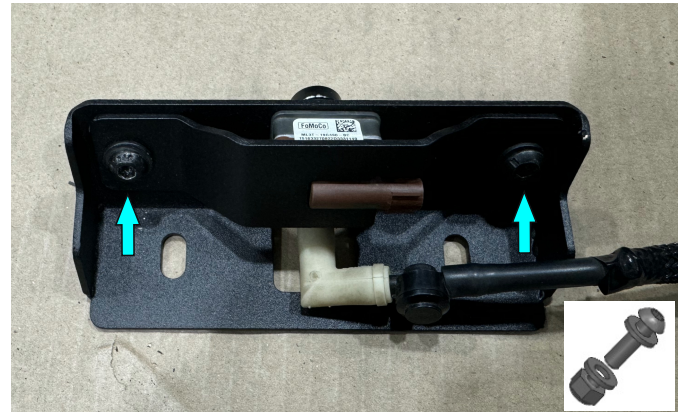

Fig.60
58. If your vehicle is fitted with front camera, install it to camera bracket (item 23) and secure it using camera clamp, screws M6x16, washers M6, nuts M6 (items 22, A1, H1, E2) (fig.60). ***Tighten hardware after that.**